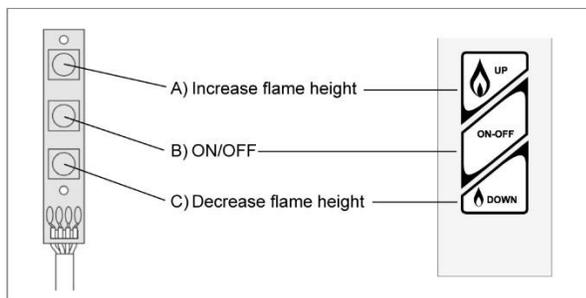

Figure 23: Switch Panel and Wall Switch/Touch Pad
- Press button “B” (see figure 23) until a short beep confirms the start sequence has begun; release button.
- Press and hold button “C” (see figure 23) to set appliance at pilot flame.
- Press button “B” (see figure 23).
(See figure 23)